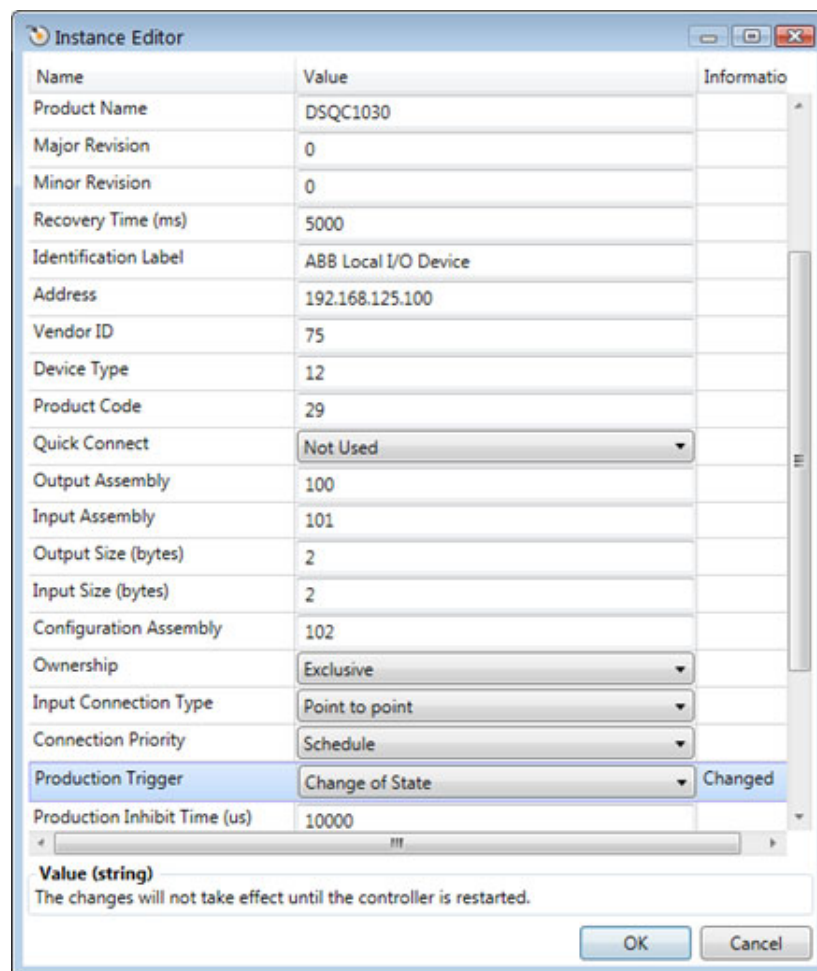

Figure 226: Change of State Setting
- d. In the Instance Editor, find the "Production Trigger" setting. Make sure that this setting is set to "Change of State." Figure 226 (below).